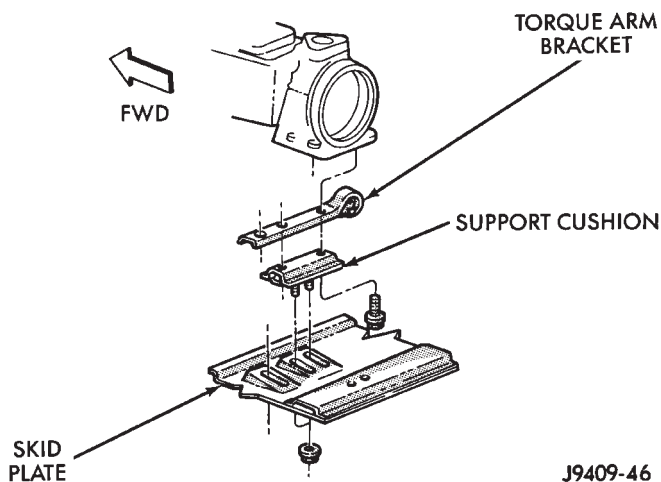

Fig. 12 Rear Mount—YJ Vehicles (Manual Transmission)
- (1) Disconnect negative cable from battery.
- (2) Raise the vehicle and support the transmission.
- (3) Remove the nuts holding the support cushion to the skid plate (Figs. 12 and 13).
- (4) Remove the skid plate bolts and the skid plate.
- (5) **MANUAL TRANSMISSION:**
- (a) Remove the bolts holding the support cushion and torque arm bracket to the transmission (Fig. 12).
- (1) **MANUAL TRANSMISSION:**
- (a) Position the torque arm bracket and support cushion to the transmission and install the bolts (Fig. 12).
- (2) **AUTOMATIC TRANSMISSION:**
- (3) Position the skid plate to the studs of the support cushion and install the nuts (Figs. 12 and 13). Tighten the stud nuts to 54 N·m (40 ft. lbs.) torque.
- (4) Install the skid plate bolts to the sill and tighten to 88 N·m (65 ft. lbs.) torque.
- (5) Remove the transmission support.
- (6) Lower the vehicle.
- (7) Connect negative cable to battery.